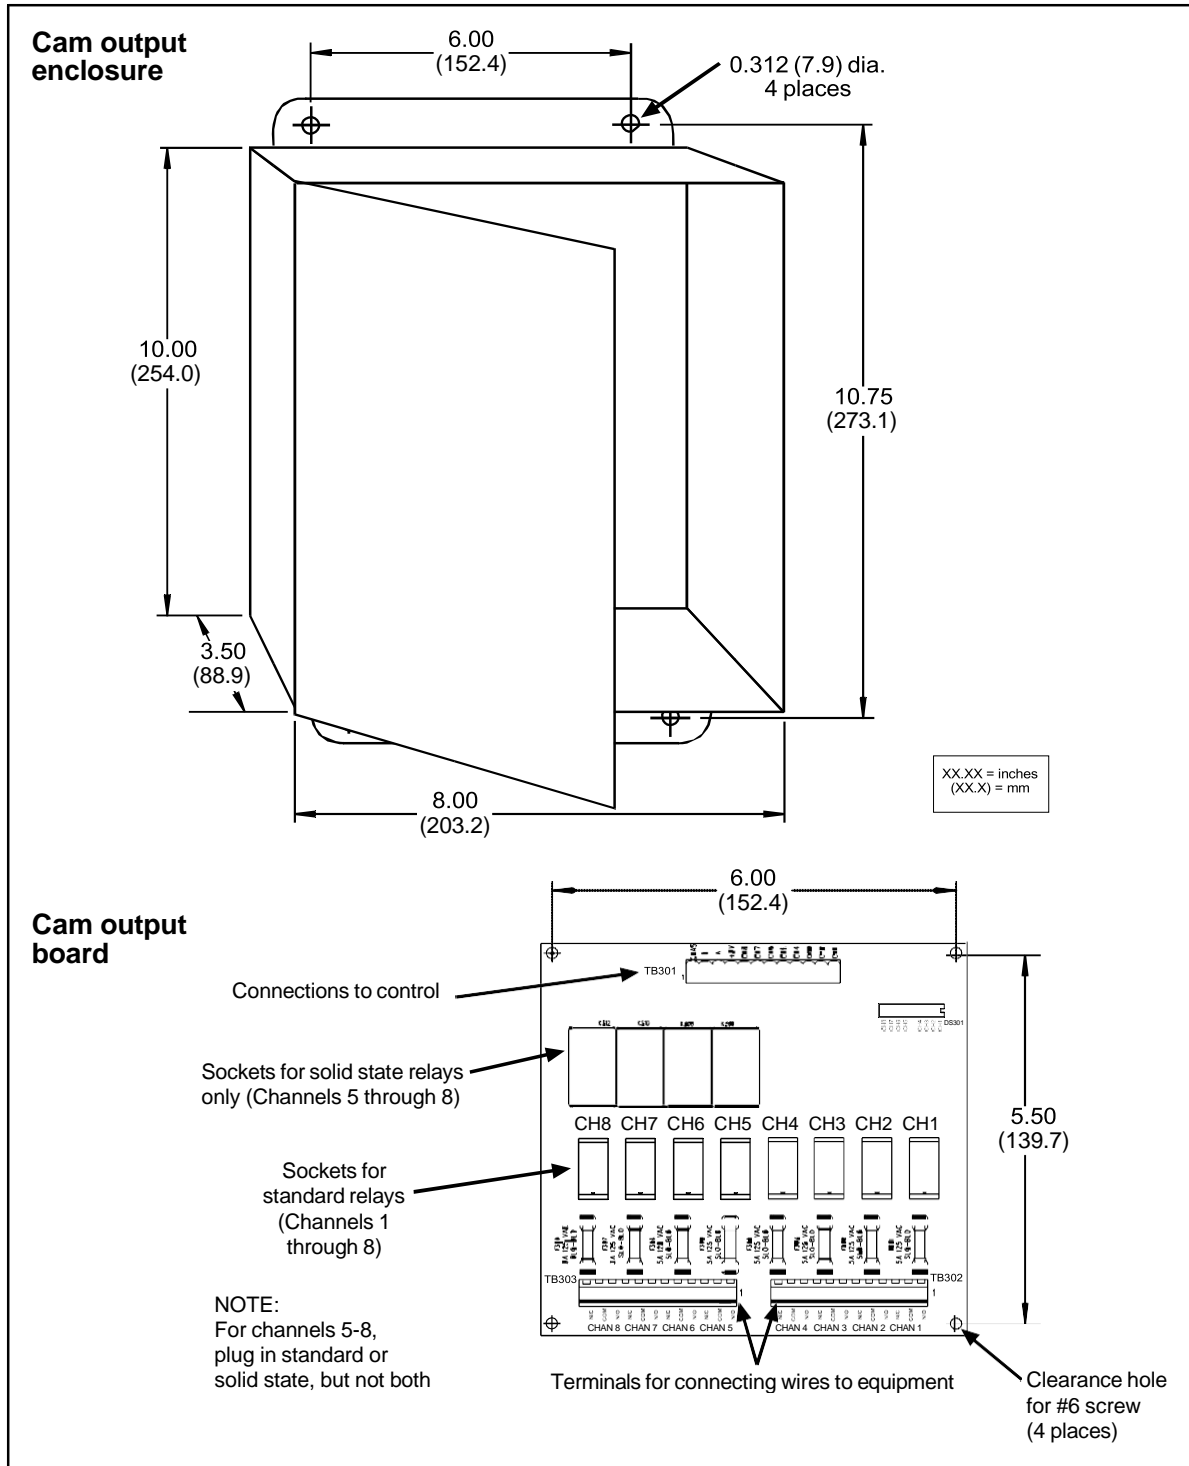

Figure 2-14. ProCamPAC Output Assembly
2. Mount the output enclosure, using the mounting holes on the flanges as shown in Figure 2-14.
3. Select the relays to be used with each channel. Relays should already be plugged into the Cam Outputs board (see Figure 2-14), each relay labelled with its type (i.e., standard or solid state).
Locate the 12-conductor cable(s) for wiring the ProCamPAC board solid state relay into channel 5 (location K306), you cannot plug a standard relay into location K305. See Figure 2-14.
5. Locate the 12-conductor cable(s) for wiring the ProCamPAC board (see Figure 2-14 for layouts of 8- and 16-channel boards) to terminal block TB301 inside the ProCamPAC Output enclosure. If you are wiring an 8-channel ProCamPAC, one cable is supplied (for channels 1-8). If you are wiring a 16-channel board, two cables are supplied, one for channels 1 through 8, the other for channels 9 through 16.